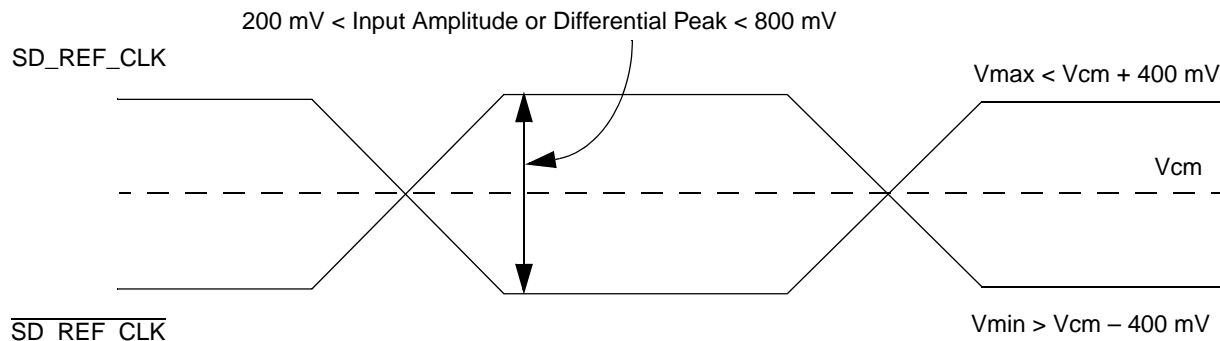

Figure 40. Differential Reference Clock Input DC Requirements (External AC-Coupled)
- For **external AC-coupled** connection, there is no common mode voltage requirement for the clock driver. Since the external AC-coupling capacitor blocks the DC level, the clock driver and the SerDes reference clock receiver operate in different common mode voltages. The SerDes reference clock receiver in this connection scheme has its common mode voltage set to XCOREVSS. Each signal wire of the differential inputs is allowed to swing below and above the common mode voltage (XCOREVSS). Figure 40 shows the SerDes reference clock input requirement for AC-coupled connection scheme.